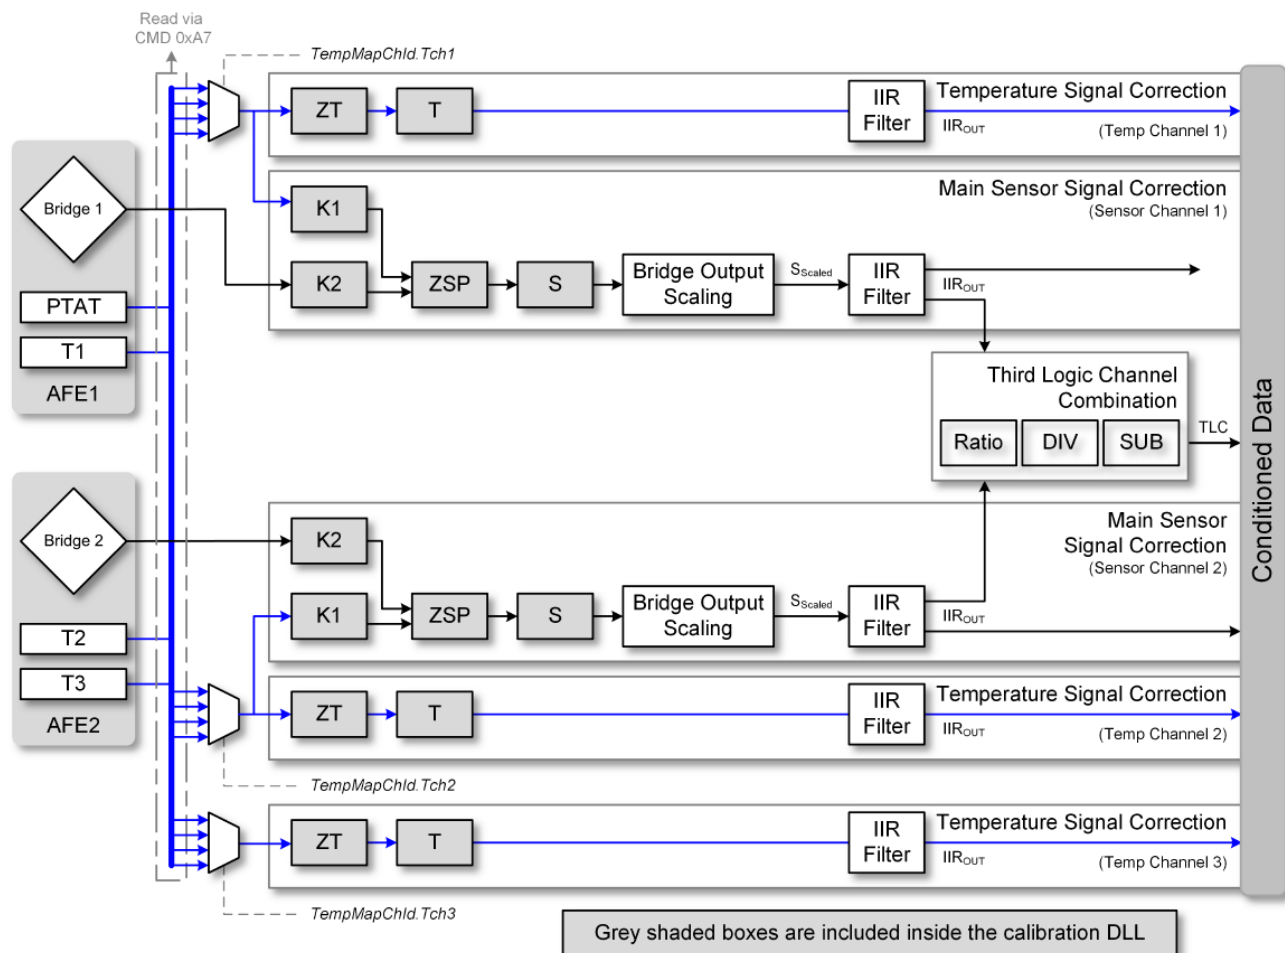

Figure 38. Acquired Data Stream Overview
Figure 38 illustrates the sensor signal conditioning flow that is applied for AFE output data to compensate for offset, gain, non-linearity, and temperature effects and to calculate the conditioned data for further output processing. For more details, see References item 3.